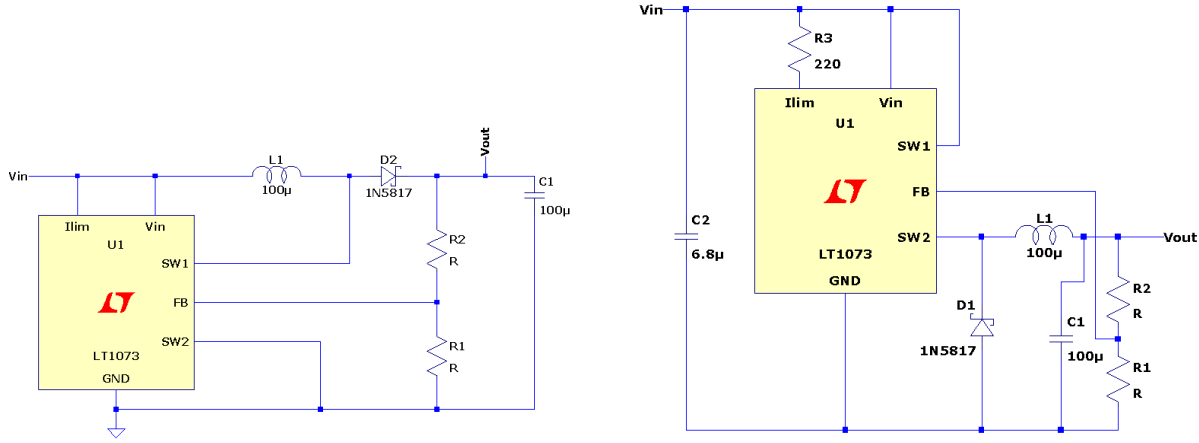

Figure 16: DC to DC converter in step up and step down mode respectively.
1.0mH and I just so happened to grab it. Figure 16 shows the schematics for the step up and down circuits in the datasheet. Their performances are shown in figure 17. Now, Hayes' circuit's performance is shown in